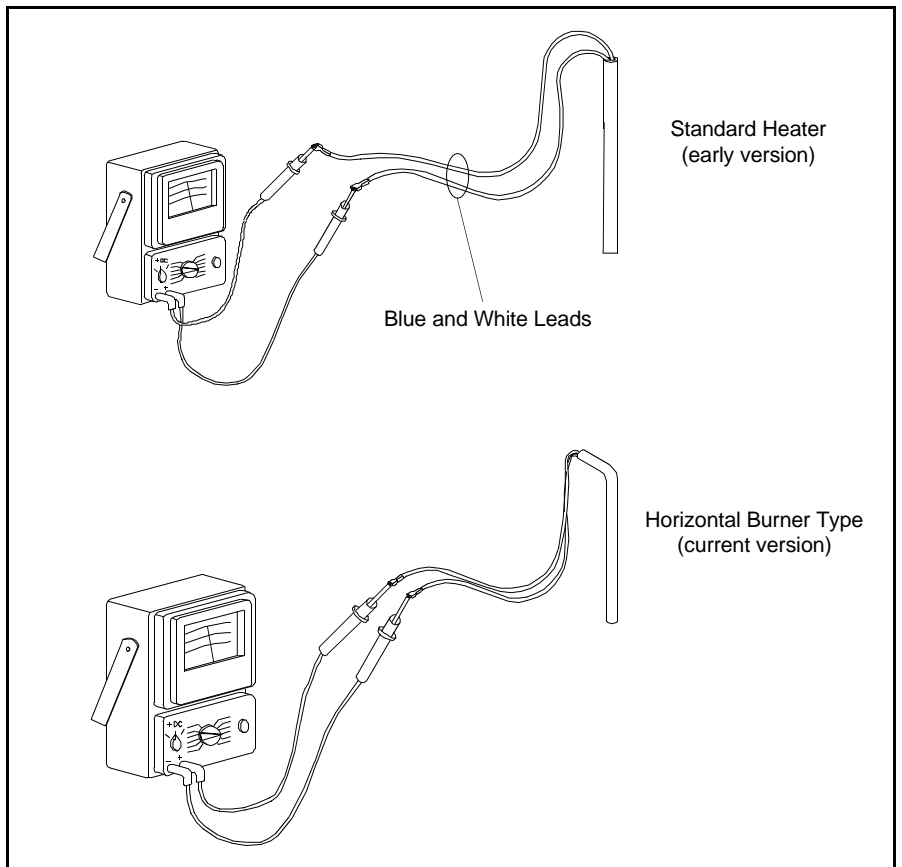

Figure 5.62 Heater Resistance Check
- 22. If 12 Volts DC is present, check resistance of the DC Heater element as shown in Figure 5.62. If not within allowable specification (see Technical Data section), replace heater.